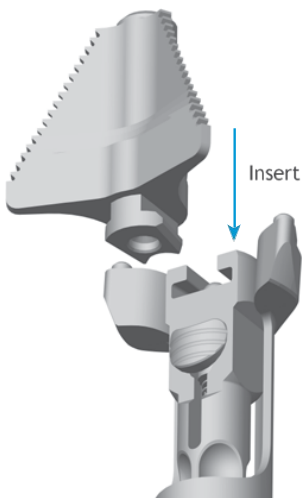

Figure 21
1. Insert the correct-sized cemented tibial broach into the cemented tibial broach inserter/extractor handle (Figure 21).